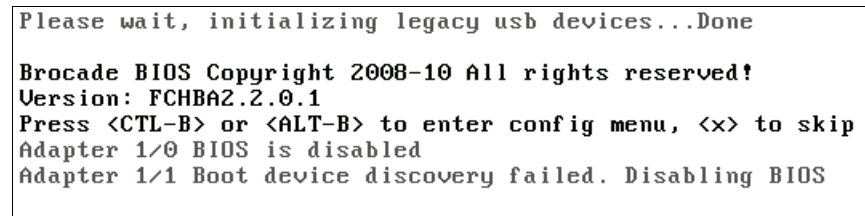

Figure 9-204 Prompt to press CTRL+B or ALT+B to enter the Brocade Config Menu
9. While the system continues to POST in legacy BIOS, press CTRL+B or ALT+B to enter the Brocade Config Menu (Figure 9-204).